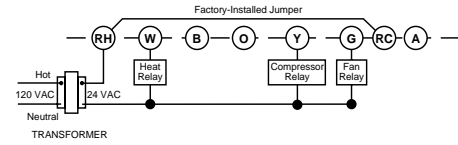
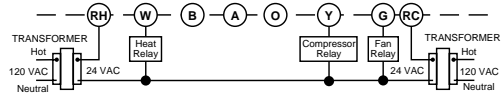

Figure 2. Typical wiring for single transformer heating/cooling system
Figure 3. Typical wiring for two-transformer heating/cooling system
- If your system has more than two wires: Use the cross reference chart to determine correct wire connections. If you have a four-wire heat/cool system leave the factory installed jumper between RC and RH attached (see Fig 2.). If your system has five wires remove the factory installed jumper between RC and RH (see Fig 3.).